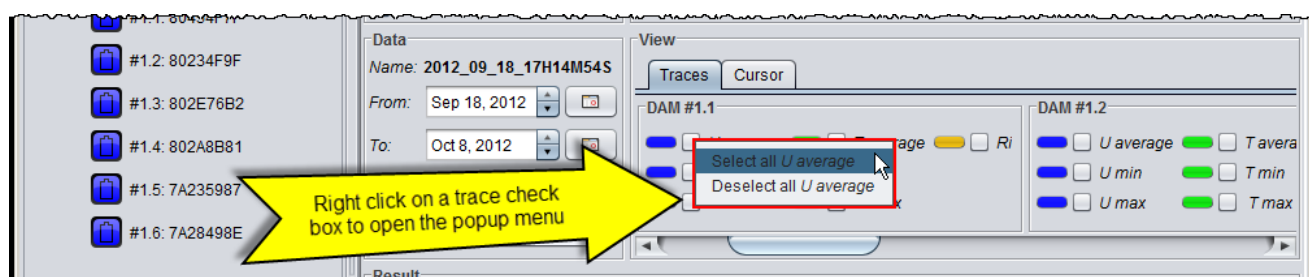

Figure 63: Multiple traces selection
1. Right click on the **“U average”** check box on any battery of the string as shown on Figure 63.